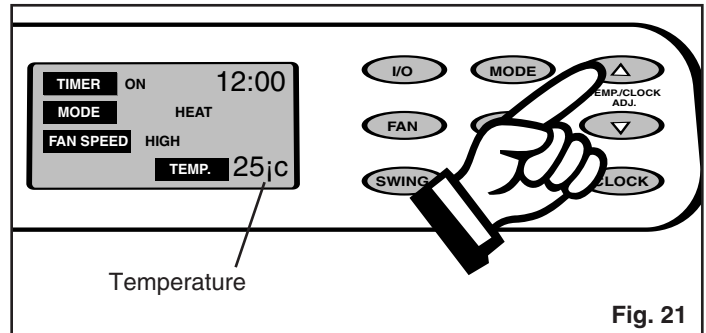

Fig. 21
- 2) Press the appropriate Δ or ∇ key to select a suitable temperature between 17°C (63°F) to 30°C (88°F). *Fig. 21*.